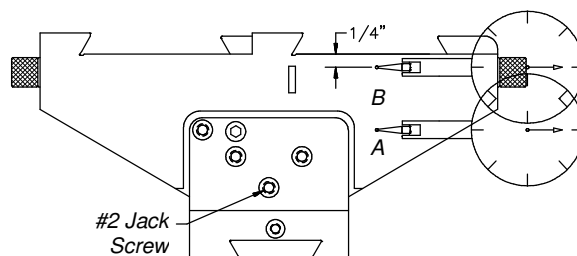

Figure 2
STEP 5. (A). Place the indicator ball next to the pivot ball as shown in Fig. 2, point A. **(B).** Zero the indicator. **(C).** Move the indicator out to 1/4 inch from the vise bed as shown in Fig 2, point B. **(D).** Turn the #2 jackscrew until the indicator moves back to the zero reading. (the second axis is now true)